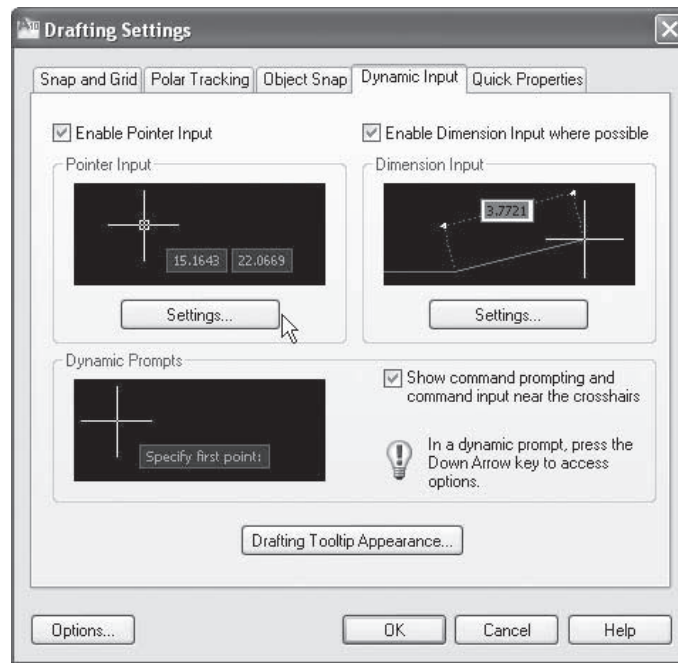

Fig. 7-8
2. Select the **Settings...** button in the **Pointer Input** area, as shown in Fig. 7-8.